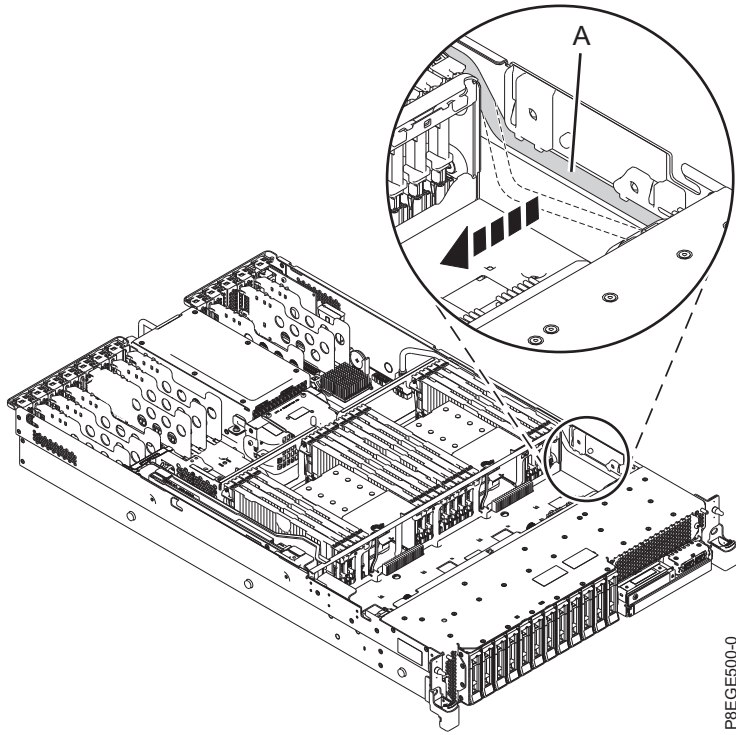

Figure 2. Pulling the USB cable out from the cable channel
4. Pull the front USB cable (A) out from the cable channel on the side of the system. See Figure 2 on page 5.